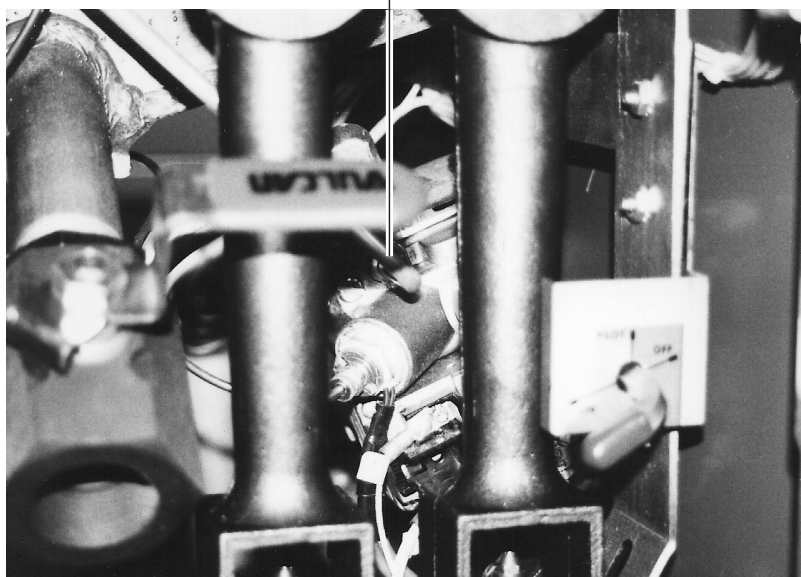

Fig. 37
5. With a 7/16" wrench loosen the pilot tube compression nut. (Fig. 37)